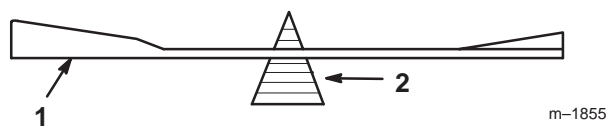

Figure 29
- Check the balance of the blade by putting it on a blade balancer (Fig. 29). If the blade stays in a horizontal position, the blade is balanced and can be used. If the blade is not balanced, file some metal off of the end of the sail area only (Fig. 27). Repeat this procedure until the blade is balanced.